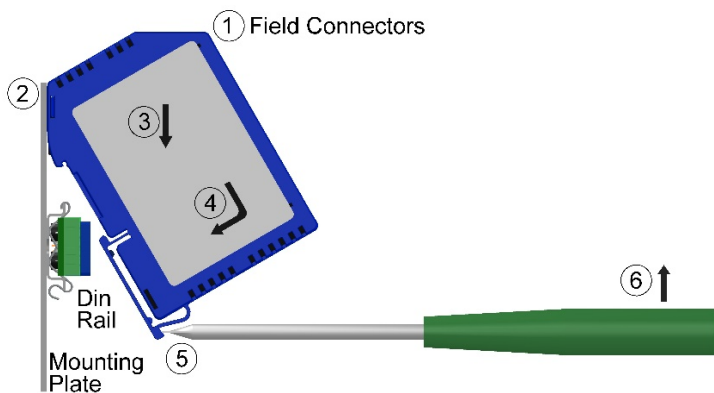

Figure 2: Installation and Removal
To remove a module, reverse the steps in the installation process. If space is available, the clip at the bottom of the module can be squeezed by hand to release. For tight installations, insert a flat blade screwdriver into the recess in the clip (5), place the shaft of the screwdriver against the curved part of the clip and gently pry the clip to release (6) as shown in Figure 2 below.